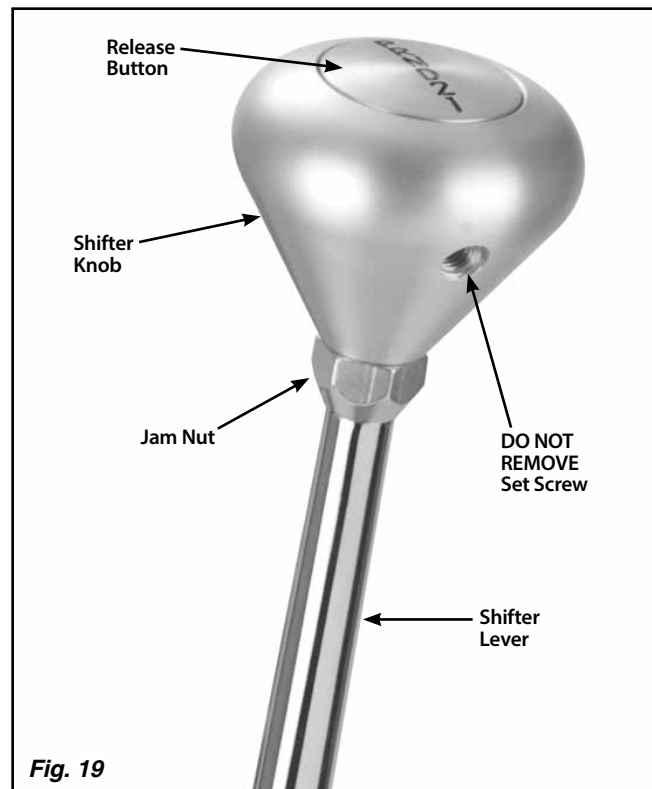

Fig. 19
Step 2: Loosen the jam nut below the shifter knob. **DO NOT** loosen or remove the set screw that is in the knob. **Fig. 19**